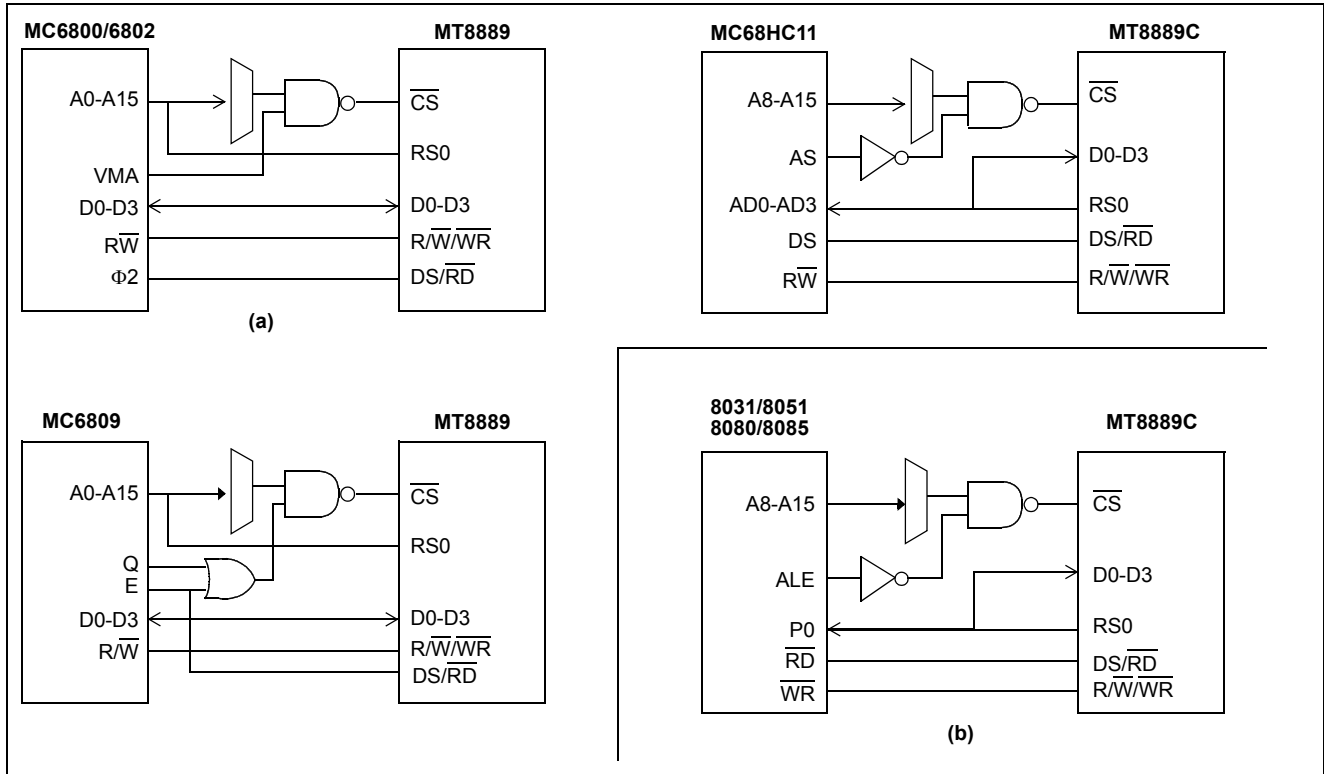

Figure 14 - a) & b) - MT8889 Interface Connections for Various Intel and Motorola Micros
Figure 20 shows the timing diagram for the Motorola MC68HC11 (1 MHz) microcontroller. The chip select (\overline{CS}) input is formed by NANDing address strobe (AS) and address decode output. Again, the MT8889C examines the state of DS on the falling edge of \overline{CS} to determine if the micro has a Motorola bus (when DS is low). Additionally, the Texas Instruments TMS370CX5X is qualified to have a Motorola interface. Figure 14(a) summarizes connection of these Motorola processors to the MT8889C DTMF transceiver.
Figures 21 and 22 are the timing diagrams for the Intel 8031/8051 (12 MHz) and 8085 (5 MHz) micro-controllers with multiplexed address and data buses. The MT8889C latches in the state of RD on the falling edge of \overline{CS} . When RD is high, Intel processor operation is selected. By NANDing the address latch enable (ALE) output with the high-byte address (P2) decode output, \overline{CS} can be generated. Figure 14(b) summarizes the connection of these Intel processors to the MT8889C transceiver.